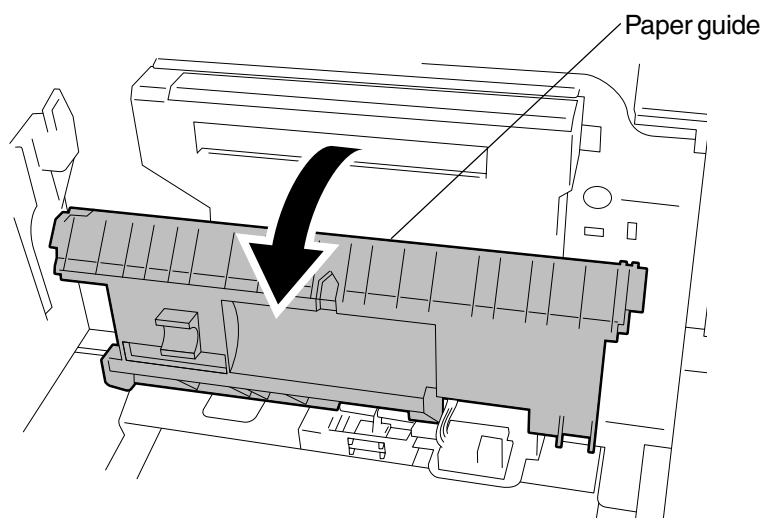

Fig.10-2-18
12. Paper guide (refer to Fig.10-2-18)